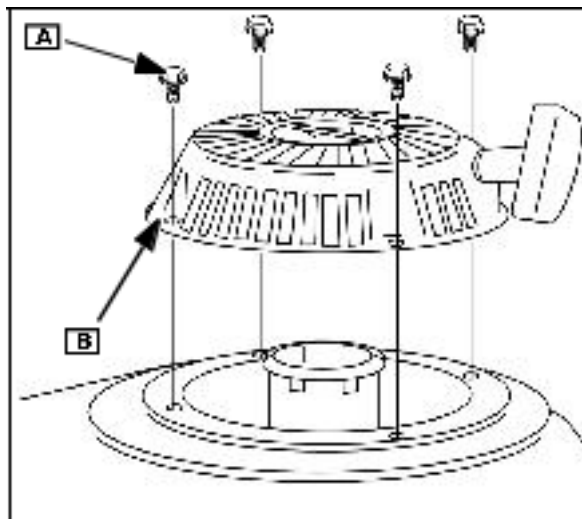

Fig. 1
Remove four screws (A) holding rewind starter housing ([B] Fig. 1) and remove. If riveted, drill through rivets. Clean all debris.